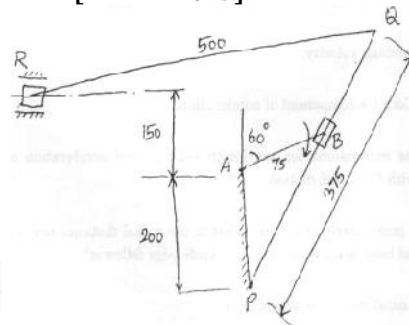

Fig.2
6. (i) Find the maximum and minimum transmission angles for the mechanisms shown in fig.2. The figure indicates the dimension in standard units of lengths.